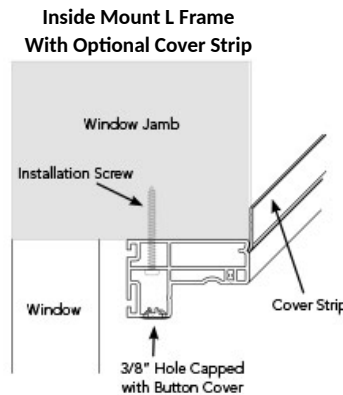

FIG. 3.2
- Once all screws have been installed and panels checked for level, cap all holes with the provided button plugs. (See Fig. 3.2)
- Close gaps around frames with L-Frame Cover Strip (if requested). This is glued to the front face of the frame. (See Fig 3.2)